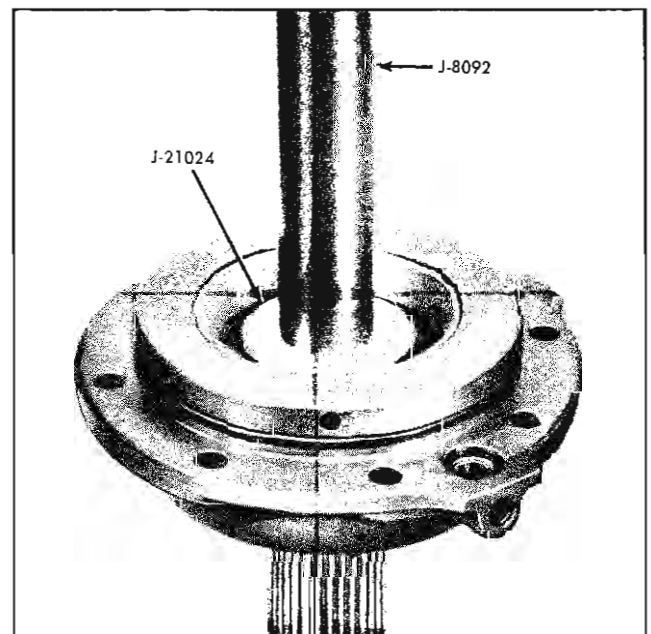

Fig. 4-53 Installing Rear Pinion Oil Seal
3. Install new rear pinion oil seal using tool J-21024 with J-8092 handle (Fig. 4-53).